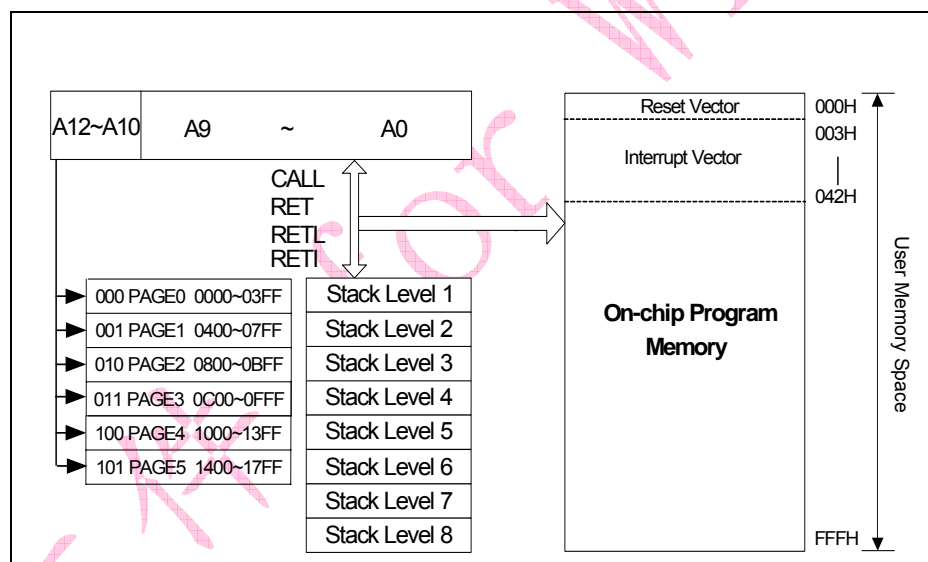

Figure 6-1 Program Counter Organization
- R2 and hardware stacks are 10-bit wide. The structure is depicted in Figure 6-1.
- "LJMP" instruction allows direct loading of the lower 12 program counter bits. Therefore, "LJMP" allows PC to jump to any location within 6K (212).
- "LCALL" instruction loads the lower 12 bits of the PC, and then PC+1 is pushed onto the stack. Thus, the subroutine entry address can be located anywhere within 6K (212).